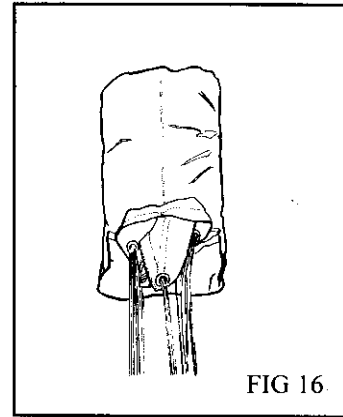

FIG 16
- “S” fold the slider and stabilizers on top of the canopy (FIG 16)